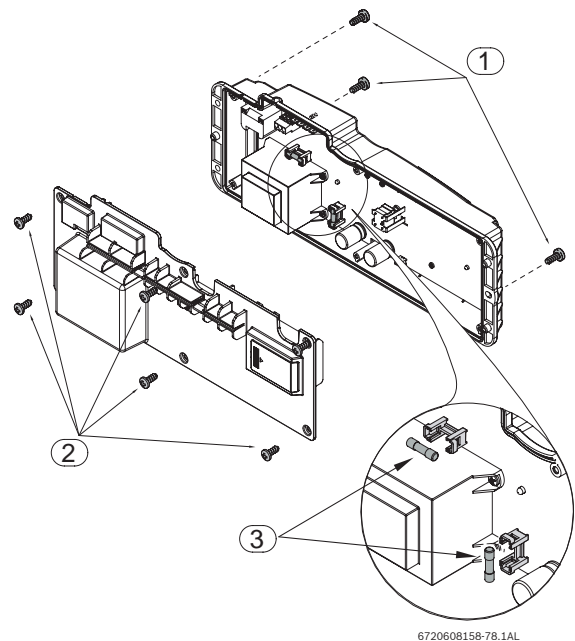

Fig. 35 Location of fuses
- ▶ Pull control unit free to access and remove the six screws from the back cover of the control unit, see Fig. 35, pos. 2.
- ▶ Check the fuses in the printed circuit board, see Fig. 35, pos. 3.